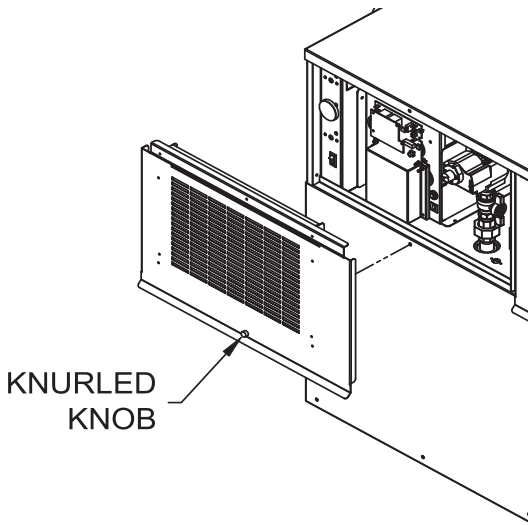

Figure 31 - Control Panel Cover
3. Loosen the knurled knob at the bottom of the control panel cover (see Figure 31).